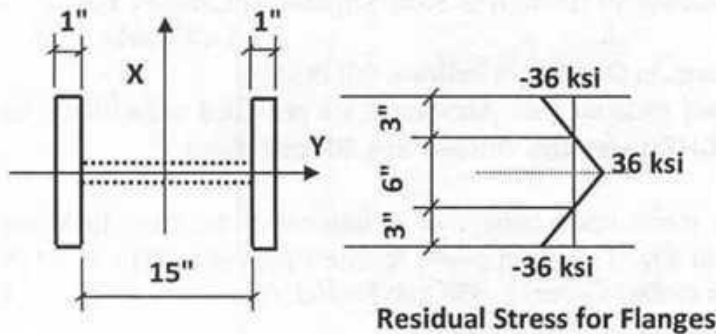

Fig. 3
3. The residual stress distribution in flanges of a webless H section for a column is shown in Fig. 3. Determine the values of $I_{x,eff}$ and $I_{y,eff}$ (effective moments of inertia about x and y axes) and critical slenderness ratio, L/r_x and L/r_y for strong and weak axis buckling, if the column with the given section buckles at an imposed uniform compressive strain of -0.0016 in./in. Given: $F_y = 60$ ksi and $E = 30000$ ksi. 8 1/3